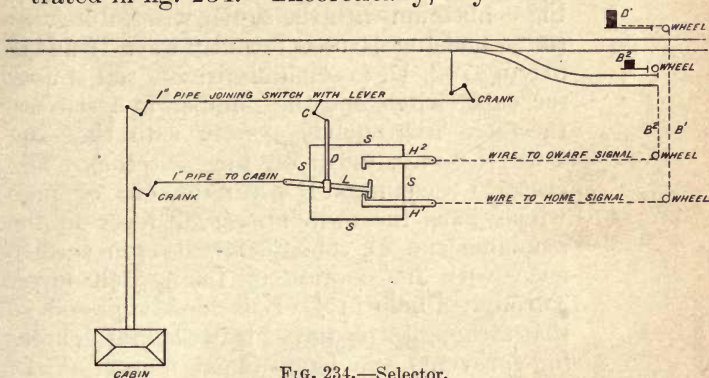

FIG. 234.—Selector.
same lever and its essential parts are illustrated in fig. 234. Theoretically, any number
and 2 regulate the selectors for 3 signals (A) in one direction and for two signals (B) in the other direction, yet a "2-way selector" is used in each case. This is so because although there are three routes, signal B² is cleared whichever of the switches 1 or 2 is set for the divergent route. In consequence of this rule the selector of fig. 234, is a "1-way." A box,
S, fig. 234, contains two hooks, H, (three in a two-way, four in a three-way, etc.) which form the connection with the signal wires, a lug, L, (only one lug is used for all "ways") and a driving rod, D, (a separate driving rod is used for each switch and the number in a selector therefore corresponds exactly with the size, 1-way, 2-way, etc., of the selector). The crank, C, connects D with the line of pipe which joins the switch with its lever in the machine, and D, consequently acts in accordance with the motion of the switch lever. Through a hole in D, L is loosely passed so that although it is moved by D laterally, nothing prevents the longitudinal motion of L. As the drawing is made, the switch stands for the main track and L is in connection with H¹ (the main-track signal hook). If the switch should be reversed by moving its pipe to the left, D would force L into connection with H² and L then being moved to the left would result in lowering B².